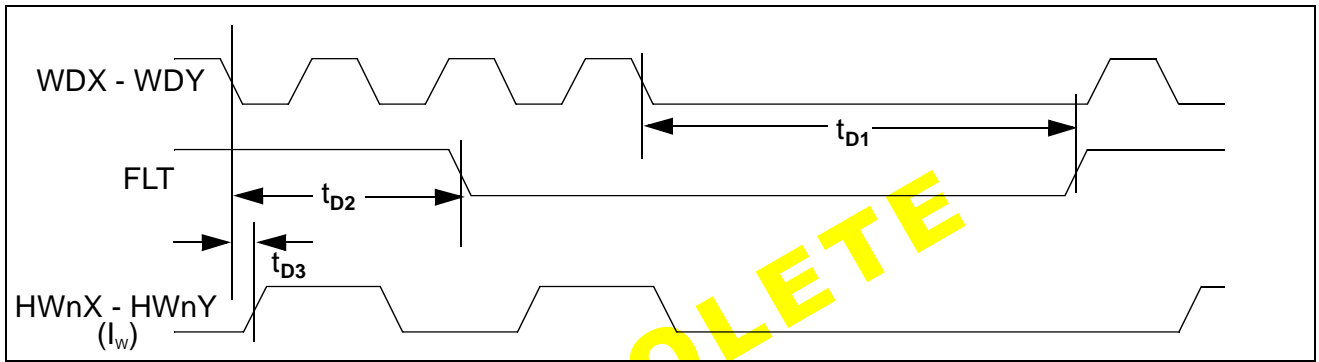

Figure 12 Write Mode Timing Diagram (with flip-flop active)
1. See Figures 12 and 13 for write mode timing diagrams.